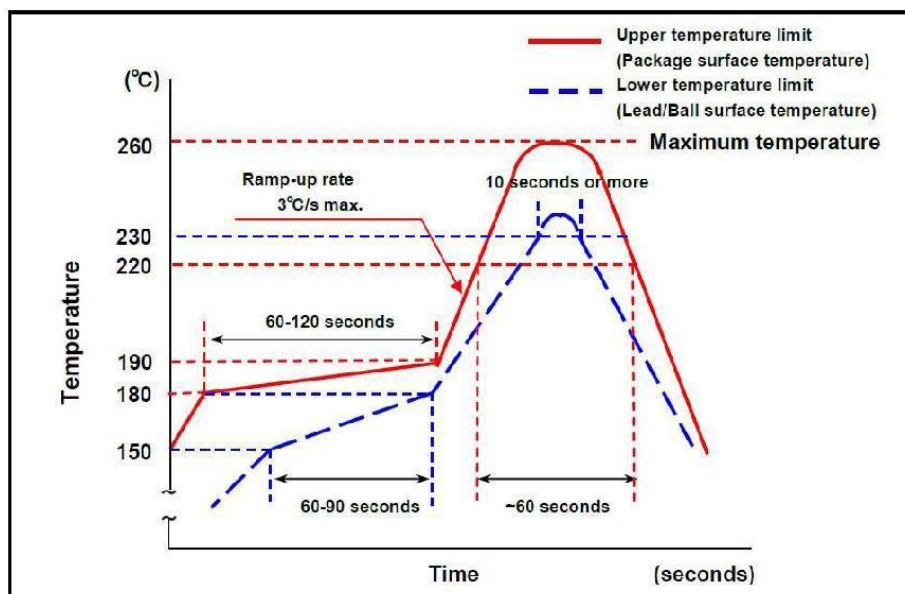

Figure 3-5-1. Example of Temperature Profile
(1) During a reflow cycle, the solder joint temperature (lead or ball surface temperature) must reach 230°C for 10 or more seconds. The package surface temperature must reach 220°C for no more than 60 seconds. The package peak temperature must not exceed 260°C. The ramp-up rate must be 3°C/second maximum.
(2) Refer to Figure 3-5-1 for a temperature profile example.
In the temperature profile in Figure 3-5-1, the upper temperature limit is defined from the maximum heat-resistant temperature of the device. The lower temperature limit is defined from the solder wettability. Set appropriate preheat temperature and heating temperature to the solder paste type and other conditions you use within the specified temperature profile.